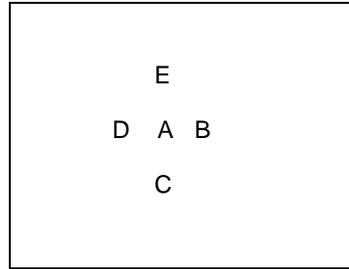

Figure 4
6.7.4 The weight indications must be within tolerance specified for the test load shown in Figure 4.